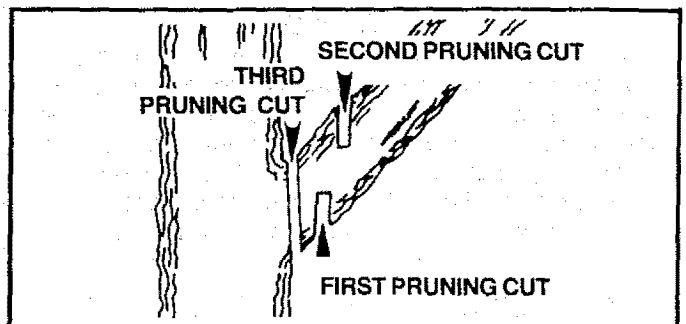

Figure 34
- b. **Refer to Figure 34 for pruning technique.**